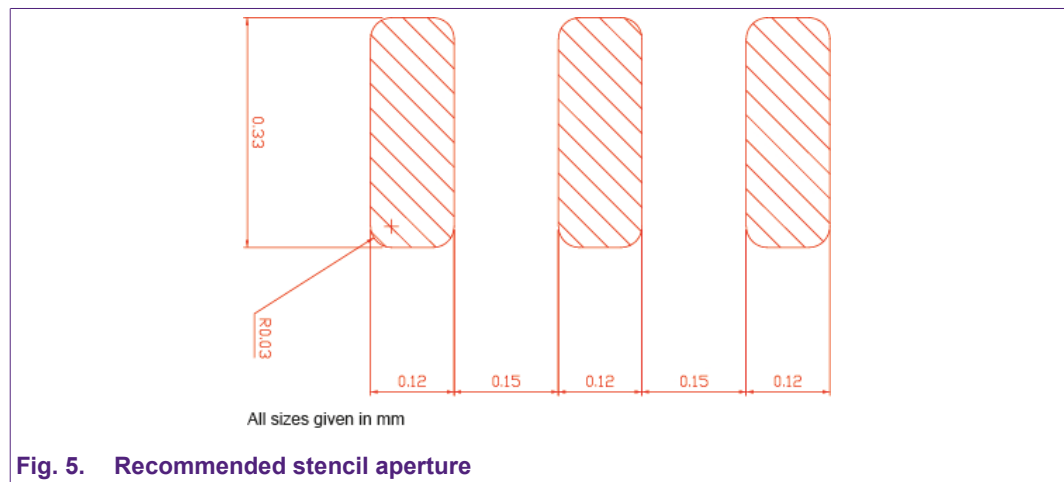

Fig. 5. Recommended stencil aperture
For the recommended Nexperia footprint (see chapter 3.2.1, Fig. 4), the optimum stencil aperture is of size 0.33 x 0.12 mm². Based on stencil manufacturers' experience, rounded corners with a radius of 0.03 mm will result in best solder paste release during printing and in an adequate solder volume. For stencil apertures dimension, refer to Fig. 5.
- A stencil aperture dimension as shown in Fig. 5 and Fig. 8 is recommended